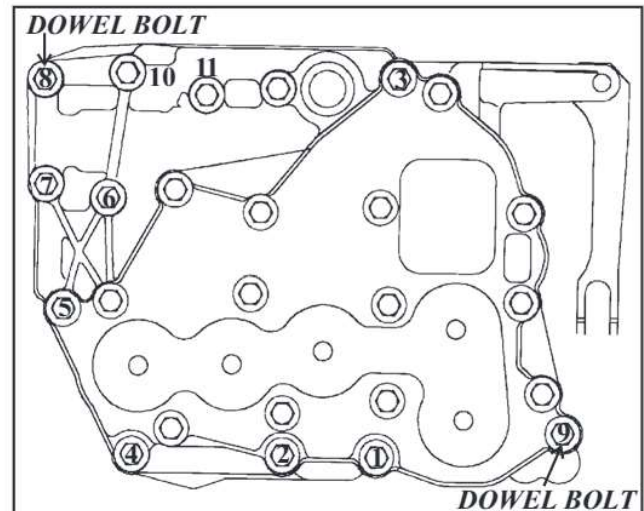

Figure 218
53. Align the valve body to the case using the dowel bolts shown in Figure 218.
54. Start all valve body bolts by hand and torque the bolts to 11 N·m (97 in. lbs) in the numerical sequence shown in Figure 218.